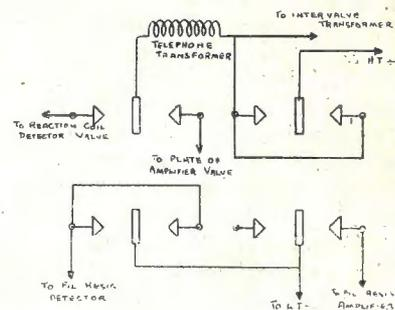

FIG. 5.
(13). This item acts as a battery and amplifier switch and consists of a twelve-spring "Federal" anti-capacity switching key. The various connections are shown in Fig. 5, and